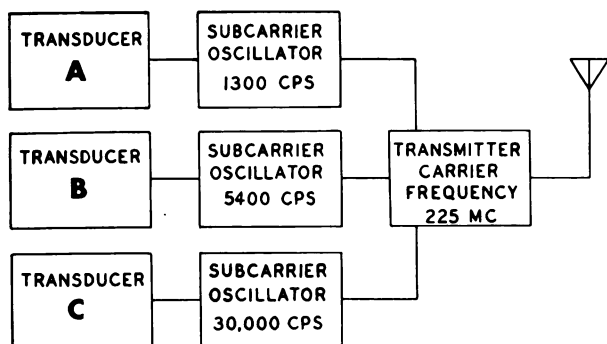
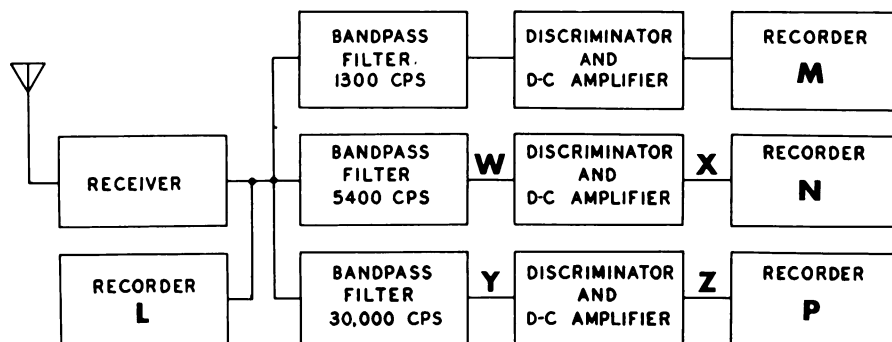
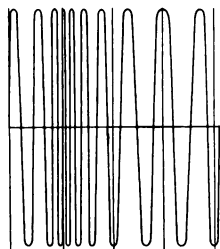

Figure 5B.—Transmitting section of a 3-channel F-M/F-M telemetering system.
Figure 5C.—Receiving section of a 3-channel F-M/F-M telemetering system.
Figure 5D.—Frequency modulation of the 30,000 c. p. s. subcarrier oscillator during one cycle of the sine wave output from transducer C shown in figure 5B.
13. The sensing element of transducer A in figure 5B is an inductance coil which forms part of the tank circuit of the 1300 c. p. s. subcarrier oscillator. This indicates that the oscillator is probably what type of circuit?
14. The 5400 and 30,000 c. p. s. subcarriers in figure 5B are phase-shift oscillators which operate like the one shown in figure 13-5 of your textbook. The d-c voltage output of transducers B and C modulate these oscillators by
15. Assume that in the development of the transmitter signal by the equipment shown in figure 5B, a signal originating in a crystal oscillator passes through two frequency triplers and a frequency doubler. At what point is the telemetering information added to the signal?
16. Assume that the F-M transmitter shown in figure 5B achieves its output frequency by means of a crystal oscillator, 1 frequency doubler, and 2 frequency triplers. Since the transmitter's output frequency is 225 mc., what is the frequency of its crystal oscillator?
17. The d-c voltage output of transducer B shown in figure 5B should reappear at what point in the equipment shown in figure 5C?
19. Which of the following components of the equipment in figure 5C separates an individual subcarrier signal from the complex signal picked up by the antenna?
18. At what point in the receiving station in figure 5C should the signal shown in figure 5D reappear?
20. What type of recorder is normally used in applications like recorder L in figure 5C?
21. The signals fed into recorder P in figure 5C cause a very small mirror to change position, thus deflecting a beam of light which traces these movements on photosensitive paper. This type of recorder is known as